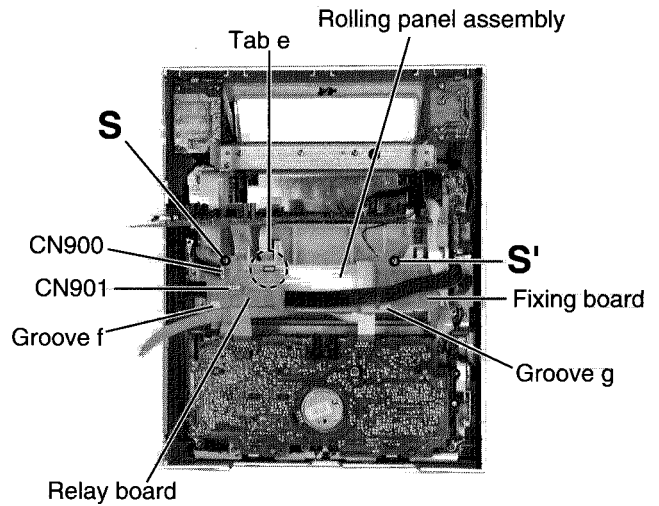

Fig.20
1. Remove the relay board / fixing board (Refer to Fig.20).